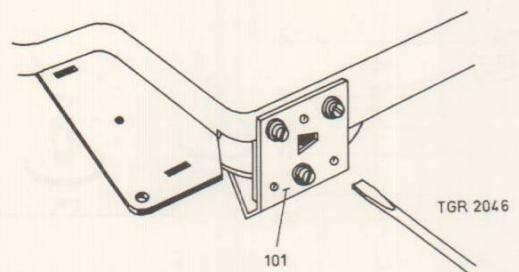

Fig. 3
Loosen the three screws by means of which lower bearing bracket, item 101, of the flywheel is fitted to the mounting plate, see Fig. 3.
Adjust the height of the flywheel by means of a screwdriver through the triangular hole in the lower bearing bracket, as indicated in Fig. 3
Loosen the three screws by means of which lower bearing bracket item 101 of the flywheel is fitted to the mounting plate, see Fig. 3
Adjust the height of the flywheel with the aid of a screwdriver through the triangular hole in the lower bearing bracket, as indicated in Fig. 3